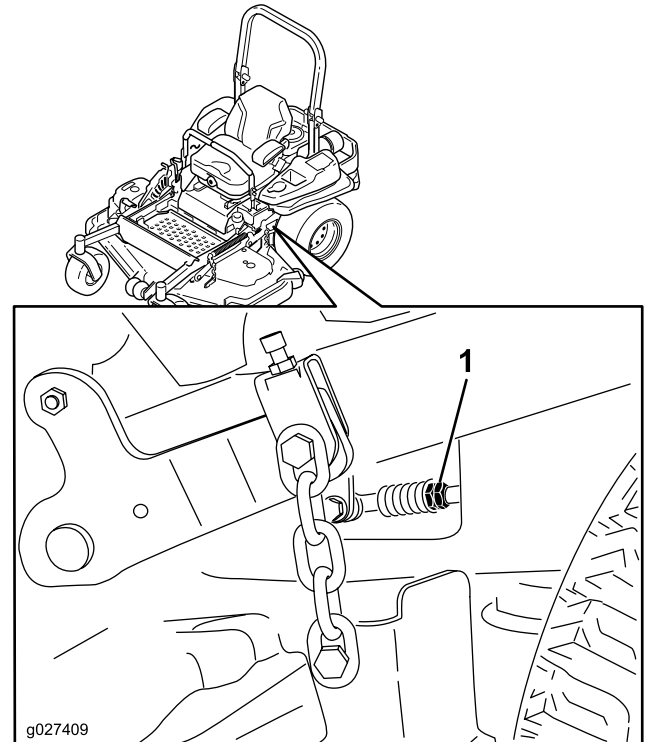

Figure 98
10. Adjust the pump-control-rod lengths by rotating the double nuts on the rod in the appropriate direction until the wheels slightly creep in reverse (Figure 98).